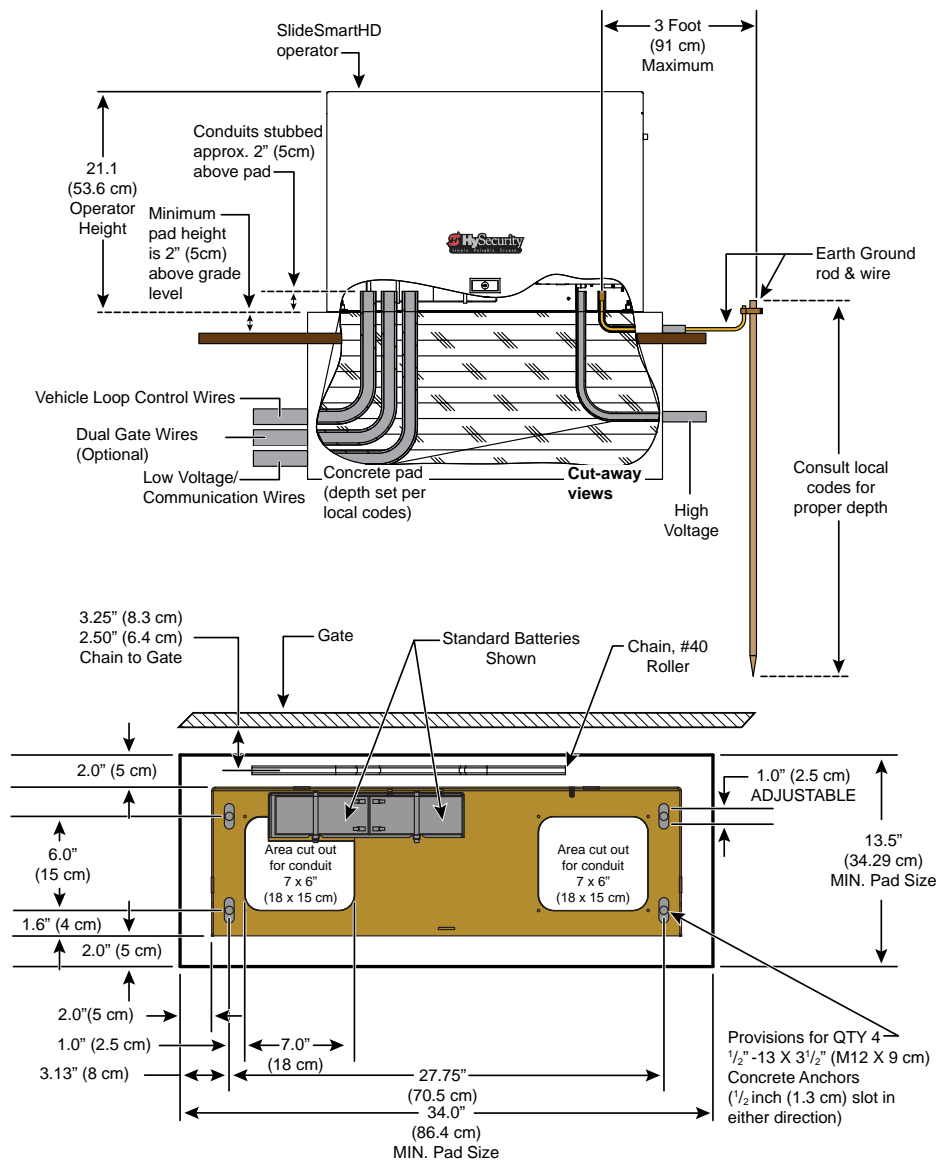

Figure 3. Conduit View
- Follow the local building codes to identify the frost line and determine the required depth of the concrete pad. HySecurity recommends a minimum 16-inch depth with a minimum 2-inch extension. Refer to Figure 3.
- Before pouring the pad, consider conduit placement so it fits within the confines of the 7 x 6-inch cutout in the SlideSmart base as shown in Figure 3. Run separate conduits for:
- Extend conduit height 2-inches (5cm) above the pad (4-inches (9cm) above ground level). Make sure the concrete forms are square with the gate and the pad is level. The operator footprint, with covers, is approximately 30 x 10 inch rectangle. See Figure 3 for the minimum pad dimensions.